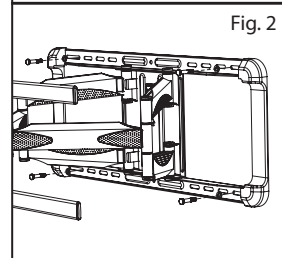

Fig. 2
- 5** Attach the mount to the wall with the arrow pointing up using the lag bolts (A) and washers (B) provided (see Fig. 2). **Do not release the mount until all bolts are secure.** Ensure that the mount remains level.